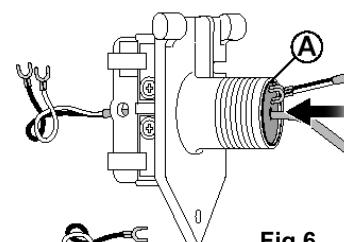
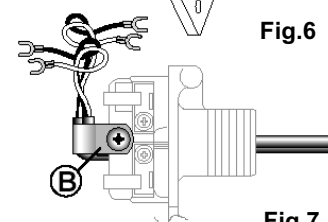

Fig.6
Fig.7
3. Thread the water controller cable through the weather seal of the cable access hole (A) (fig.6) in the direction shown allowing sufficient cable length so that the sheath of the cable can be secured with cable clamp (B) supplied with the water controllers (fig.7)